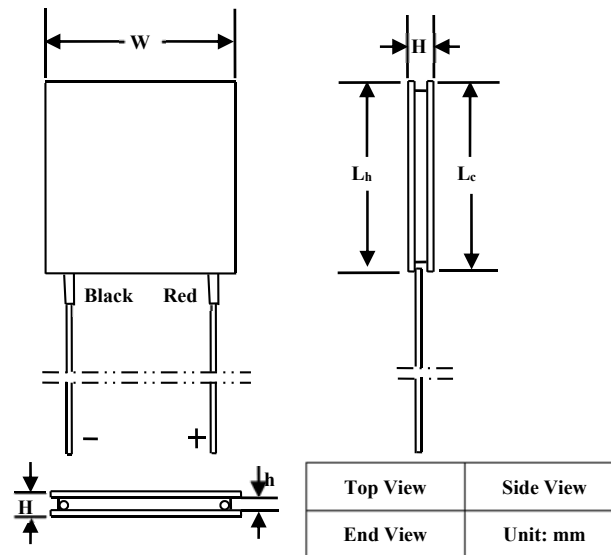

Figure 6. Mechanical Dimensions of ATE1-TC-31-3AS
The ATE1-TC-31-3AS TEC comes with 2 insulated lead wires. The positive wire is red, and the negative wire is black. The mechanical dimensions are shown in Figure 6.
**Note:** As Figure 6 shows, when the red lead wire is on the right, then the top surface is the cold side of the TEC.